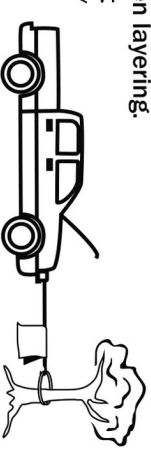

Figure 4
j. When you have attached the hook to the load, it is important to place a wire dampener / blanket / heavy coat over the wire, near the hook end, so that in the event of a hook / rope / attachment point failure, the energy of the rope is directed towards the ground and will help to prevent serious injury or damage. **SEE FIGURE 4.**